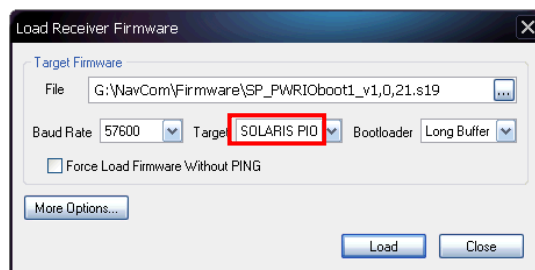

Figure 28: Settings for PWRIO Firmware
- Select SOLARIS PIO to upload PWRIO firmware (see Figure 28):